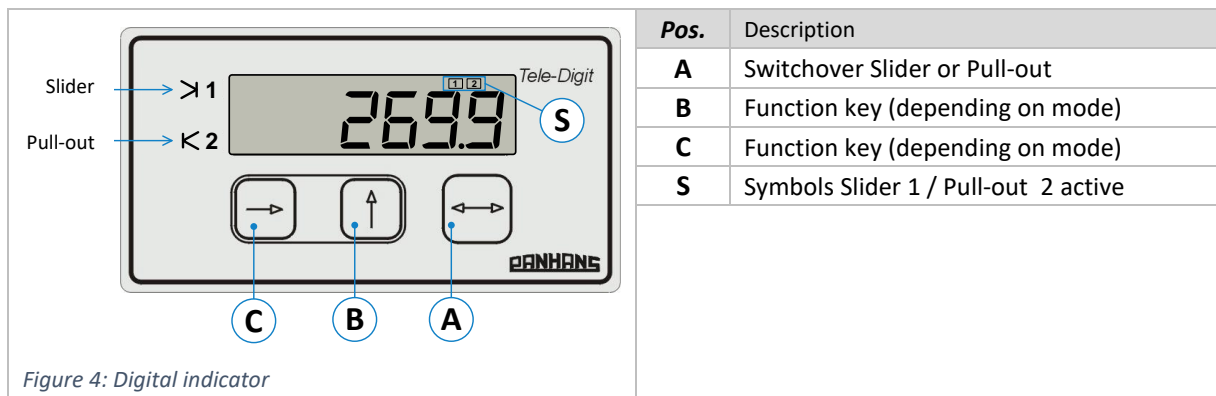

Figure 4: Digital indicator
- Select the "slider" with button A (see ⇒ Figure 4):
- The symbol (S) for the active slider (1) appears in the top line of the display.
- Select the “pull-out” with button **A** (see ⇨ Figure 4):